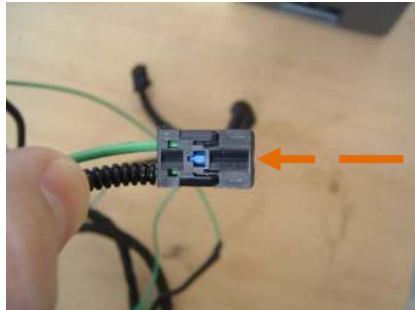

Fig 7
1. Remove original optical connector from plug X13812 and slide connector over it as shown in Fig 7 – 8.